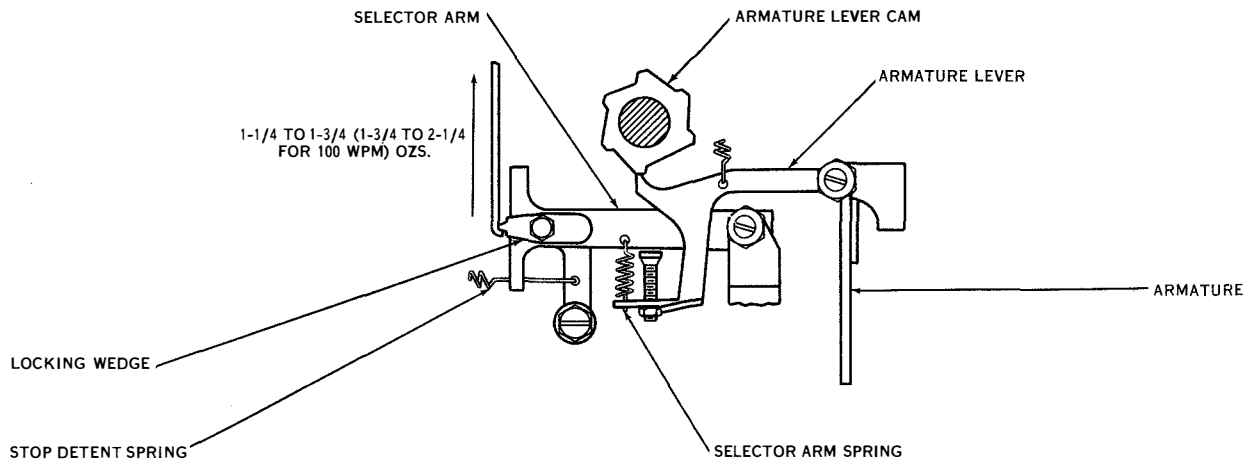

Figure 7-33. Selector Arm Spring
(20) **SELECTOR ARM SPRING.** (See figure 7-33.)—A tension of 1¼ to 1¾ ounces (1¾ to 2¼ ounces